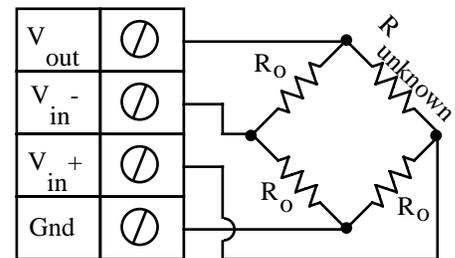

Fig 3.5 - Resistance Measurement - Bridge Circuit
Resistance measurement using a bridge circuit involves connecting a resistor of unknown value as one leg of a full-bridge circuit, applying a voltage across the bridge, and measuring the voltage across the two intermediate nodes. The intermediate node voltage is measured between a pair of instruNet Vin+ and Vin- input terminals while the bridge excitation voltage is supplied by either the instruNet Vout terminal or an external voltage source. In figure 3.5, Runknow is a resistor whose value is being measured and Ro is a
5. Wire your voltage source per figure 3.5, and refer to the steps at the beginning of this chapter for more information on how to set up your sensor.5,10